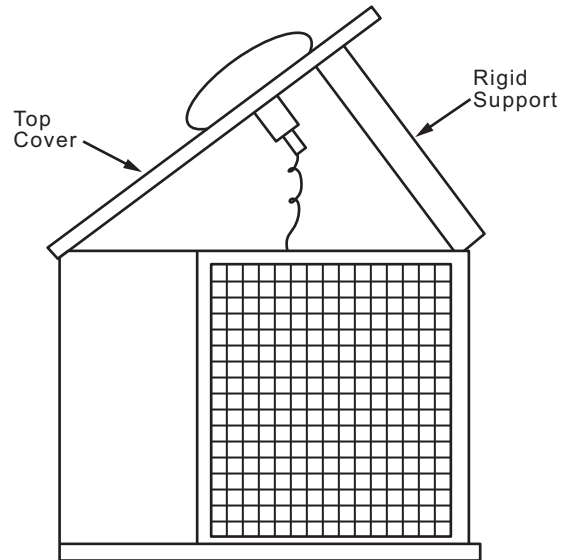

Fig. 33 — Pivot and Support Top Cover
2. Remove screws holding rear corner post and top cover in place. Pivot top cover up 12 to 18 inches (305 to 457 mm) and support with a rigid support. See Fig. 33.